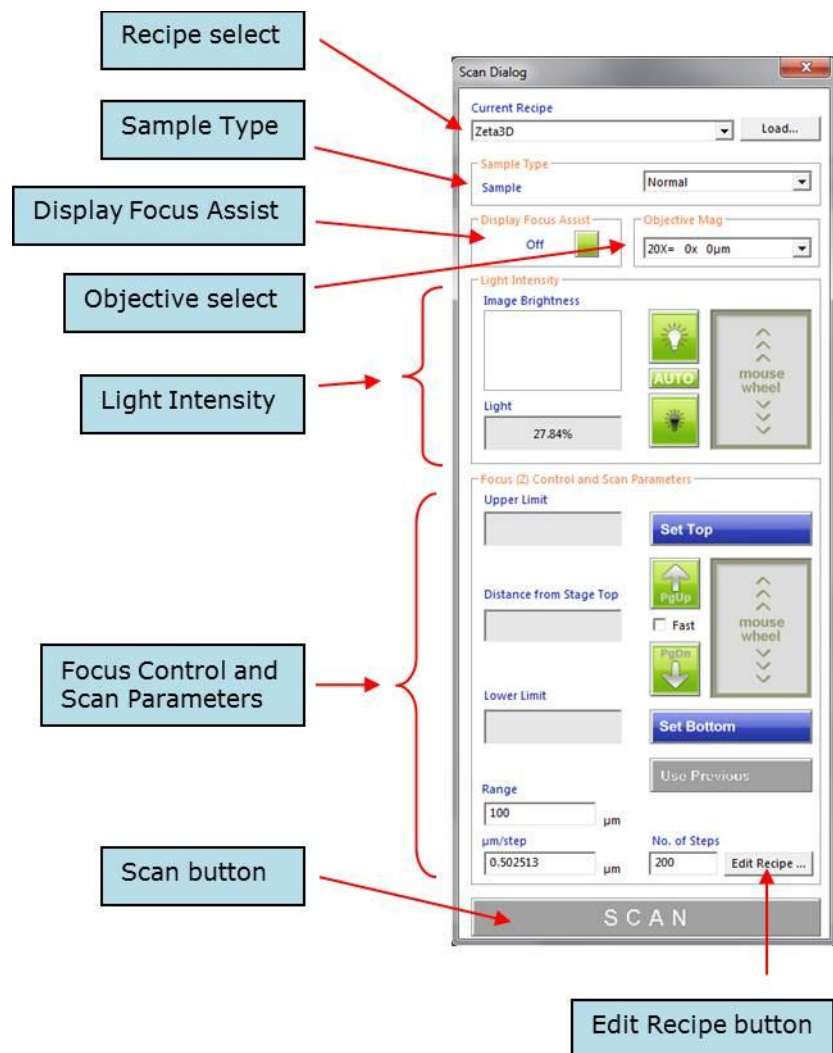

Fig. 27. Detail of frames in Scan Dialog box
1. Select the sample type in the first frame of the *Scan Dialog* box, as shown in Fig. 27.